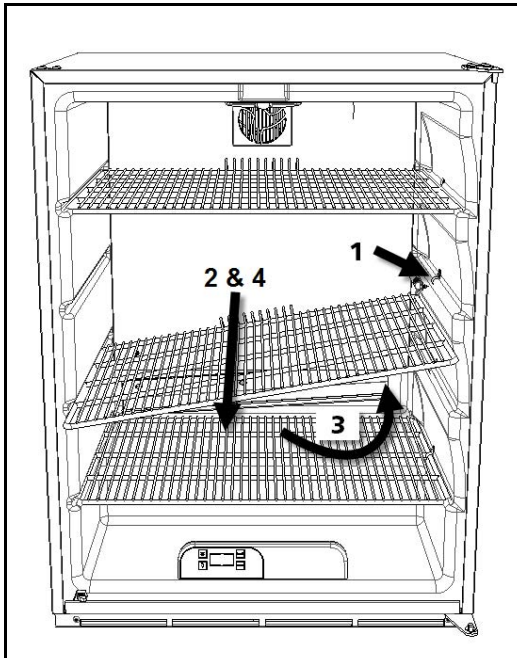

Figure 10
2. Pull shelf out about 6" (**Figure 10, 1**), until back of shelf clears the "hump" on the right-hand side.
3. Tilt up right-hand edge of shelf (**Figure 10, 2**).
4. Remove shelf from unit by pulling out (**Figure 10, 3**).